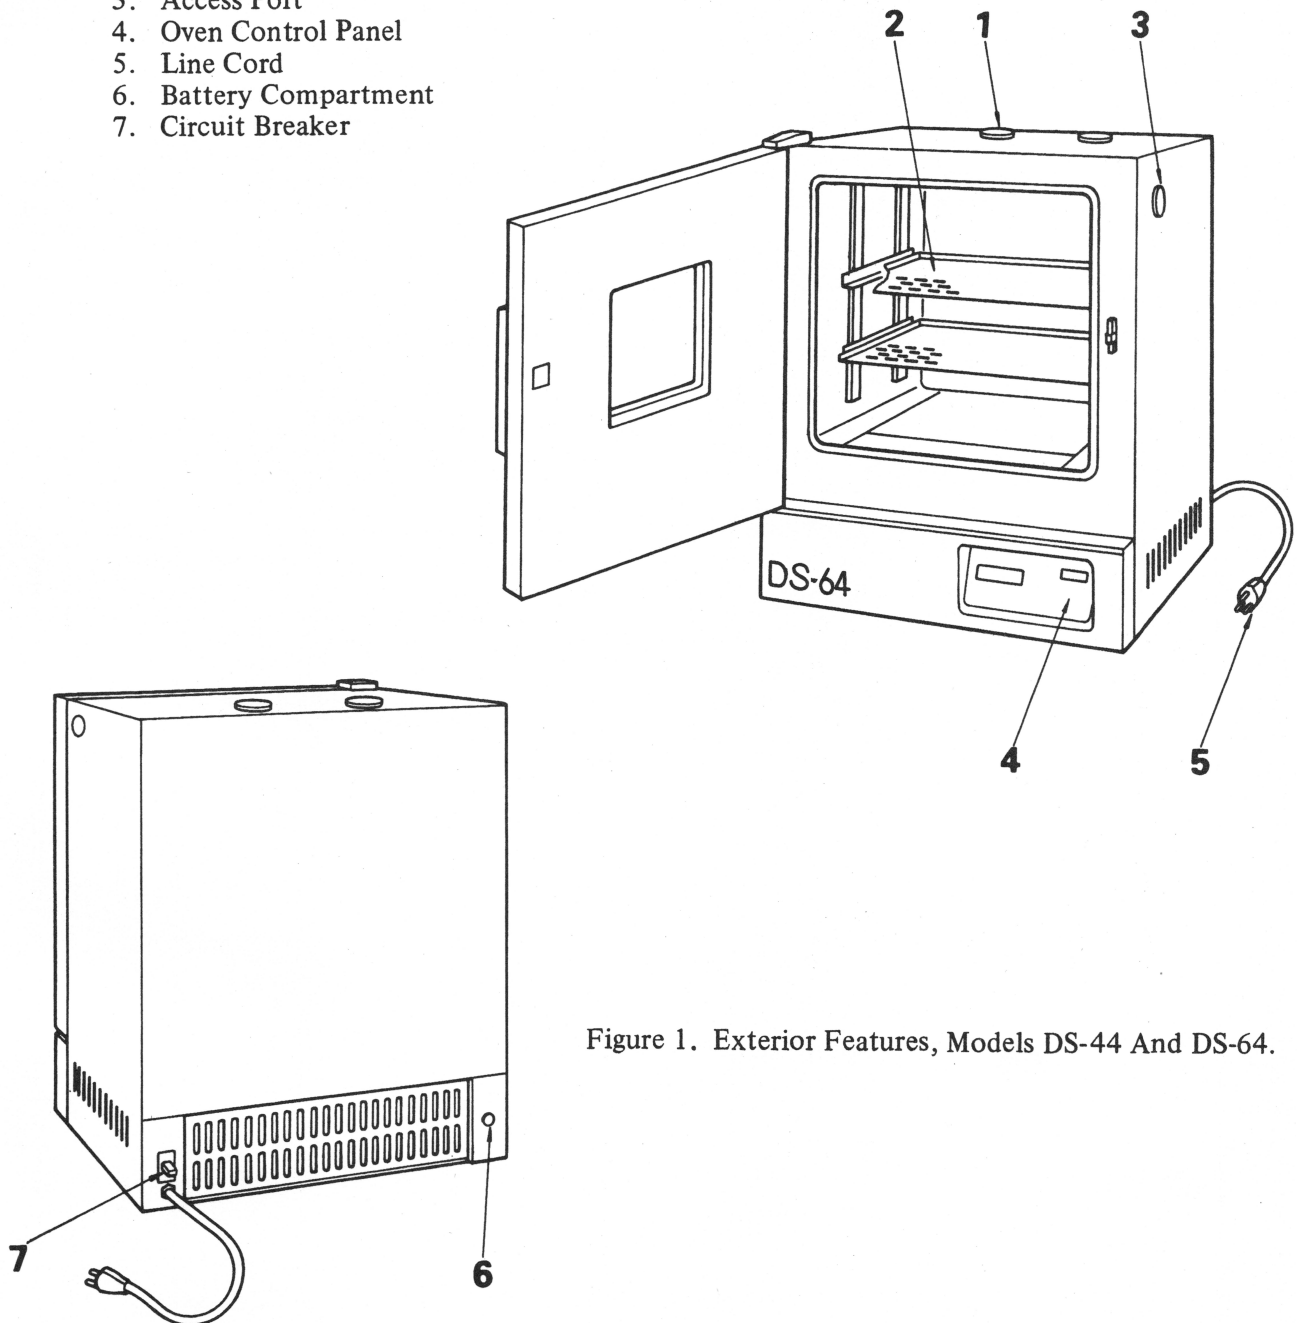

Figure 1. Exterior Features, Models DS-44 And DS-64.
1.2 Exterior Features (Figure 1)
For maximum utility, Models DS-44 and DS-64 have been designed with an access port (see Figure 1); e.g. operator can pass through line cord for power stirrer or thermal sensor.